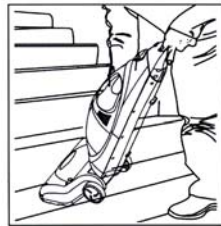

Fig. 7
2. Depress the power on/off switch on the floor brush. (Fig. 7)